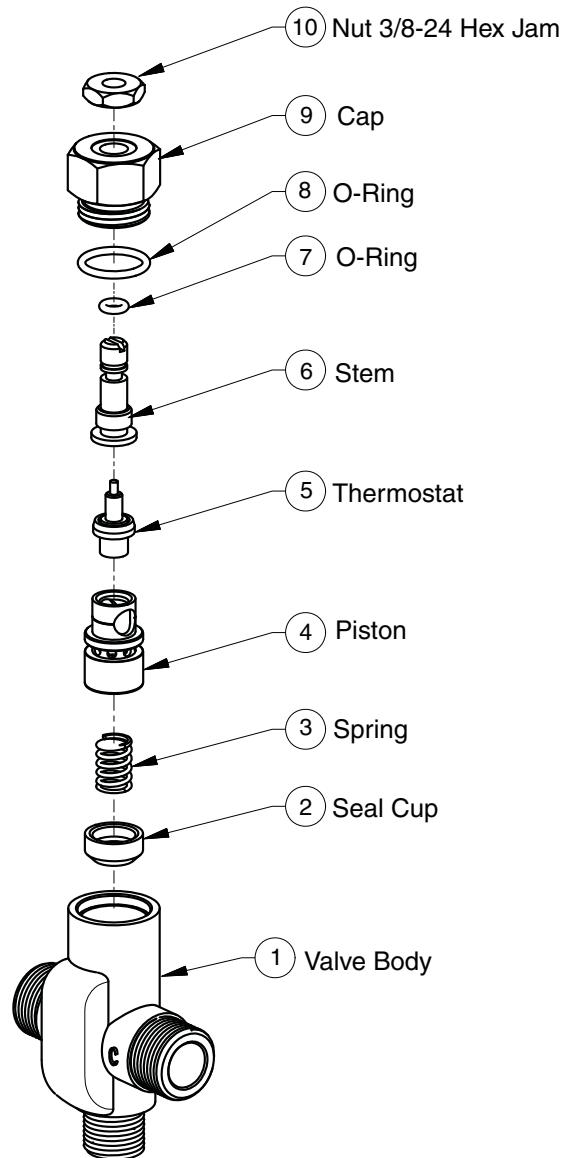

Figure 13
1. Remove the valve's cap and thermostat (see Figure 13 on Page 29).